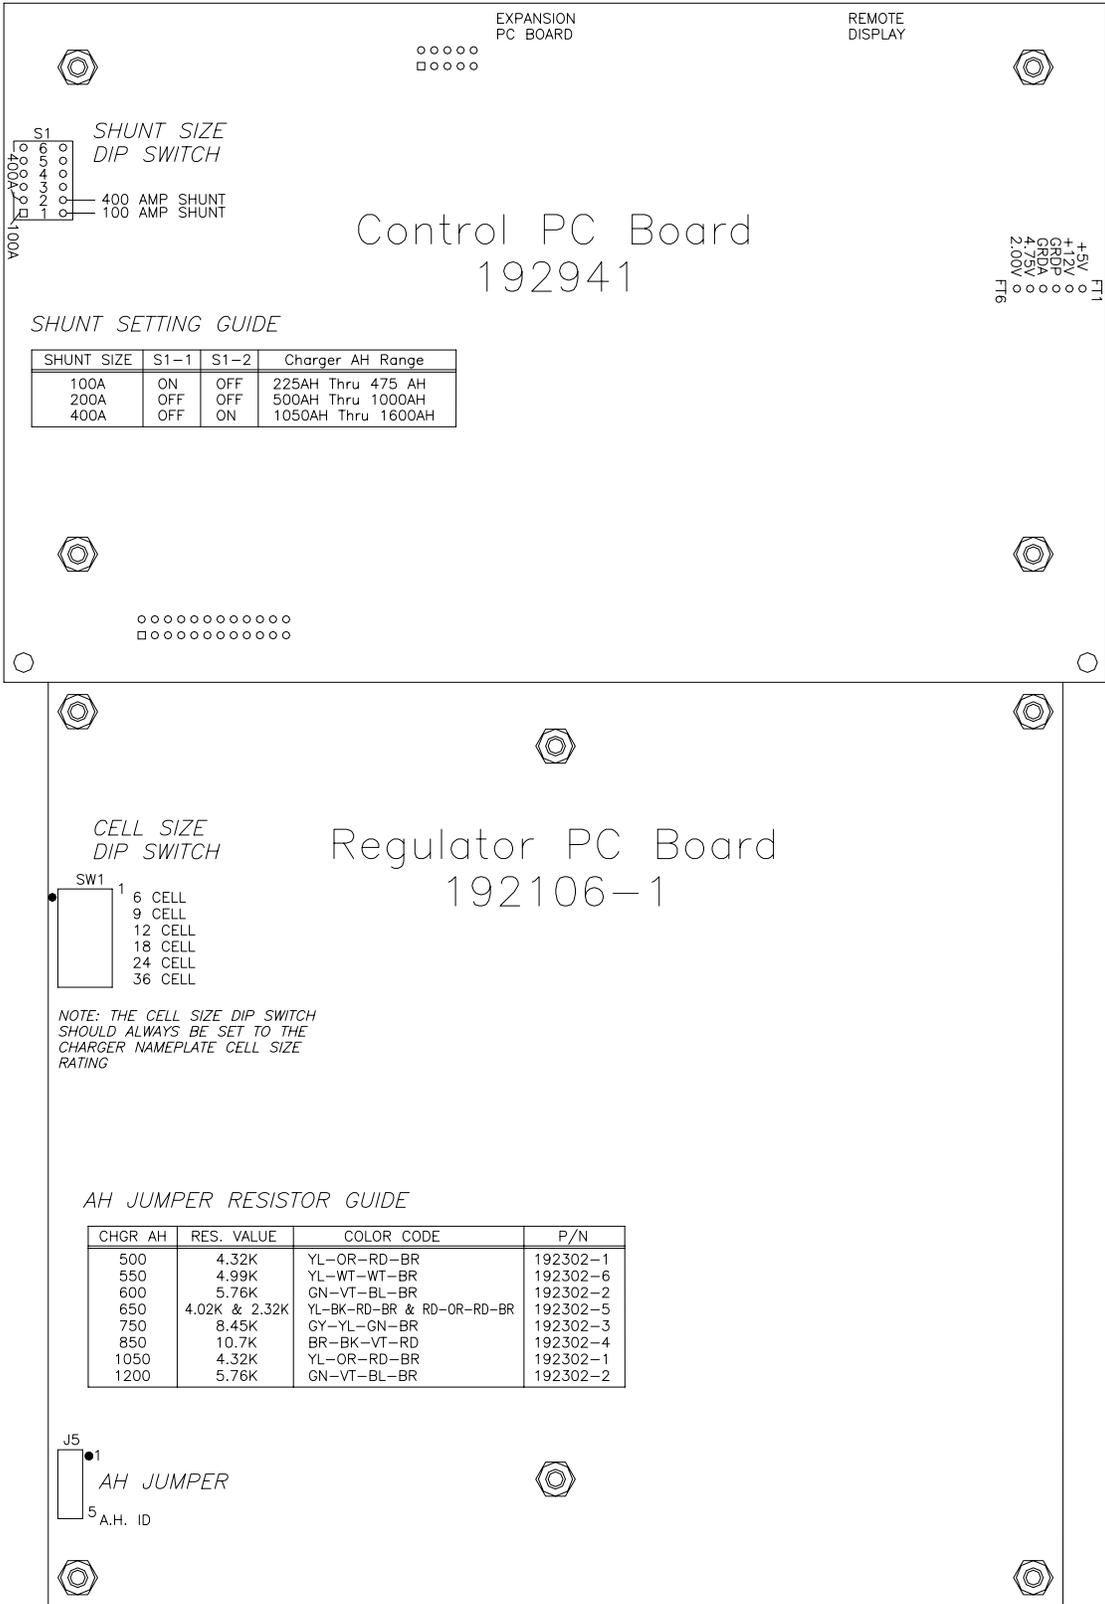

Figure 10-1 PC Boards
- 10.66** Set the control PCB shunt size dip switch to match the shunt on the charger (1 leaf = 100A, 2 leaves = 200A, 4 leaves = 400A). See Figure 10-1.
- 10.67** Set the regulator PCB cell size dip switches to match the charger nameplate cell size. See Figure 10-1.
- 10.68** Replace the ampere hour jumper with one that matches the nameplate AH rating of the charger. See the parts list included in this manual. See Figure 10-1.